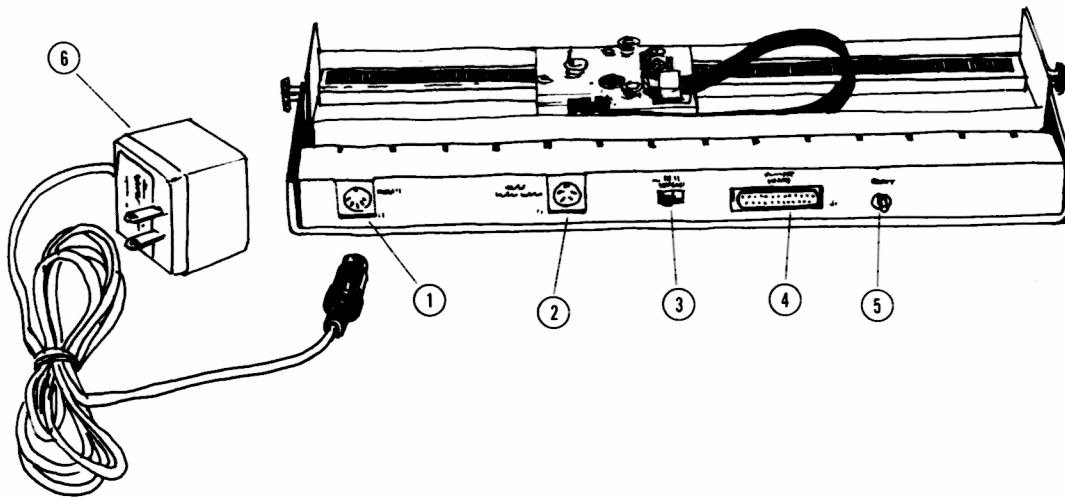

Figure 2. Digitizer (Rear View)
- (1) POWER CORD CONNECTOR (J2). Connect the round connector from the POWER PACK into this Connector.
- (2) DATA AUDIO/RS-232 (J4). If you're connecting the Digitizer via the Tape jack of your Model I, Level II Computer or if you're using a TRS-80 Color Computer, use this (4-pin) connector.
- (3) CASS/NORM. The setting of this Switch depends upon how (through which port) the Digitizer is connected to the Computer. For Computers equipped with RS-232-C, set to NORM. For Color Computers or Model I Level II cassette interface, set to CASS.
- (4) RS-232 OUTPUT (J1). Connect the Digitizer to your Computer via this DB-25 (25-pin) connector when using Model I Level II, Model II, or Model III RS-232-C.
- (5) RESET. Press this Switch to reset X-Y values to zero.
- (6) POWER PACK. Plug the POWER PACK into an AC wall outlet; plug the round connector into the Power Connector (J2) on the back panel of the Digitizer. (See Figure 2.)